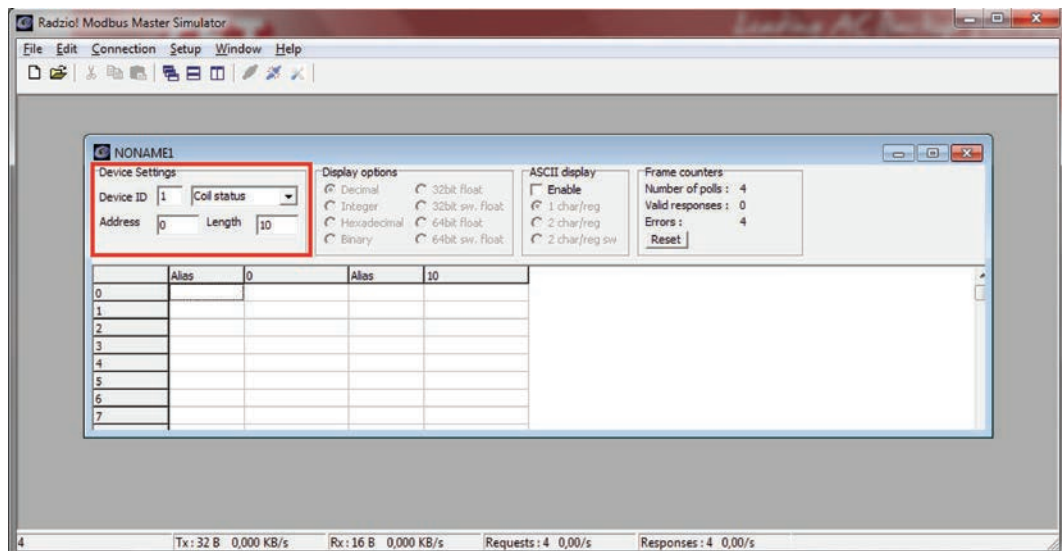

Fig 10: Default Radzio settings to Modify
11. Modify the **Device Settings** in the new modbus sheet. (Fig 10)